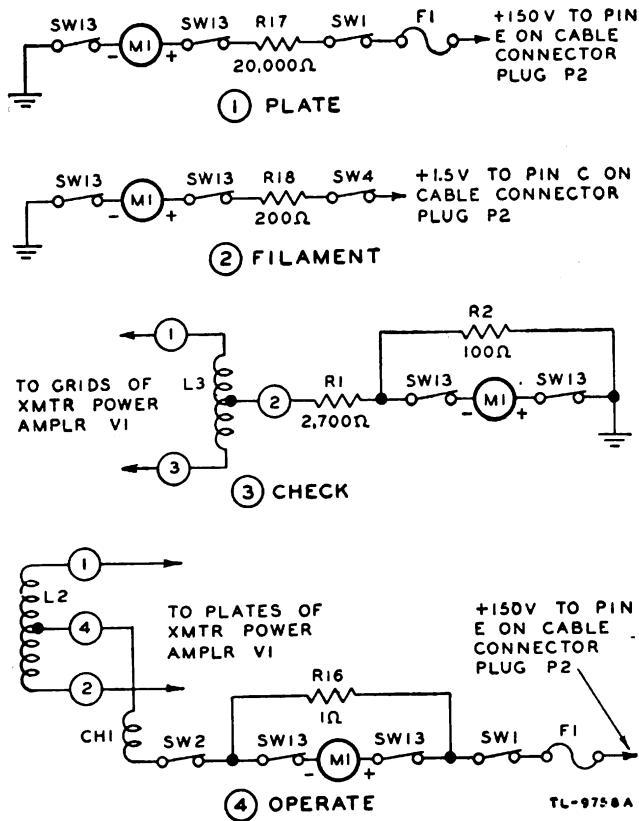

Figure 63. Radio Receiver and Transmitter BC-659-( ), simplified diagrams for each position of meter switch.
a. GENERAL. Refer to figure 64 or 65 (see back of manual) when tracing the meter circuit, and to figure 63 for the simplified circuits. The switch is a four-position, two-section device. The two sweep blades are operated simultaneously so that when the upper blade rotates clockwise, the lower blade moves the same way. The meter terminals are always in contact with the blades through their respective switch contacts.
b. PLATE POSITION. When turned to PLATE (fig. 63 (1)), both blades of SW13 move to the fourth contacts. The positive terminal is connected to the high-voltage source through the lower blade of SW13, resistor R17, switch SW1, and fuse F1. In this position, the transmitter plate voltage is checked.
c. FILAMENT POSITION. When turned to FIL. (fig. 63 (2)) both blades of SW13 move to the third contacts. The negative terminal of the meter is grounded. The positive terminal is con-
d. CHECK POSITION. When turned to CHECK (fig. 63 (3)), both blades of SW13 move to the next contacts. The negative terminal of the meter is connected to the grids of the transmitter power-amplifier (p-a) tube through the upper switch blade of SW13, resistor R1, and coil L3. The plus terminal of the meter is connected to ground through the lower switch blade. Resistor R2 shunts the meter. This position measures the relative grid current in tube V1.
e. OPERATE POSITION. When turned to OPER. (fig. 63 (4)), the plus terminal of meter M1 is connected to the high-voltage source through the lower switch blade of SW13, switch SW1, and fuse F1. The negative terminal of the meter is connected to the plates of transmitter p-a tube V1 through the upper switch blade of SW13, switch SW2, choke CH1, and coil L2; register R16 is shunted across the meter. This position indicates the relative plate current.